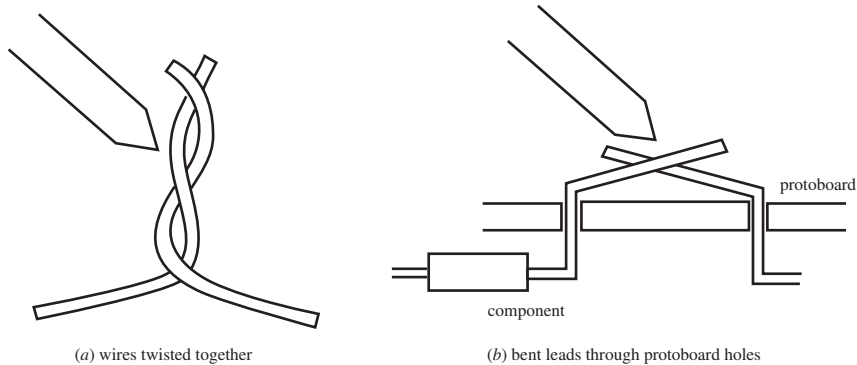
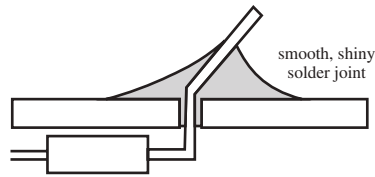

Figure 2.42 Preparing a soldered joint.
Figure 2.43 Successful solder joint.
- (2) Clean any surfaces that are to be joined. You can use fine emery paper, steel wool, or a metal brush to remove oxide layers and dirt so that the solder can easily wet the surface. Rosin core (flux) solder will enhance the wetting process.
- (3) Make a mechanical connection between the wires to be joined, either by bending or twisting, and ensure the components are secure so that they will not move when you apply the iron. Figure 2.42 illustrates two wires twisted together and a component inserted into a protoboard in preparation for soldering.
- (4) Heating the wires and metal surfaces to be joined is necessary so that the solder properly wets the metal for a strong bond to result. When soldering electronic components, practice in heating is necessary so that the process is swift enough to not damage components. Soldering irons with sharper tips are convenient for joining small electronic components, because they can deliver the heat very locally.
- (5) When the surfaces have been heated momentarily, apply the solder to the work (not the soldering iron) and it should flow fluidly over the surfaces. Feed enough solder to provide a robust but not blobby joint. (If the solder balls up on the work, the iron is not hot enough.) Smoothly remove the iron and allow the joint to solidify momentarily. You should see a slight change in surface texture of the solder when it solidifies. If the joint is ragged or dull, you may have a “cold” joint, one where the solder has not properly wetted the surfaces. Such a joint will not have adequate or reliable conductivity and must be repaired by resoldering. Figure 2.43 illustrates a successful solder joint where the solder has wet both surfaces, in this case a component lead in a metal-rim-hole perforated board.